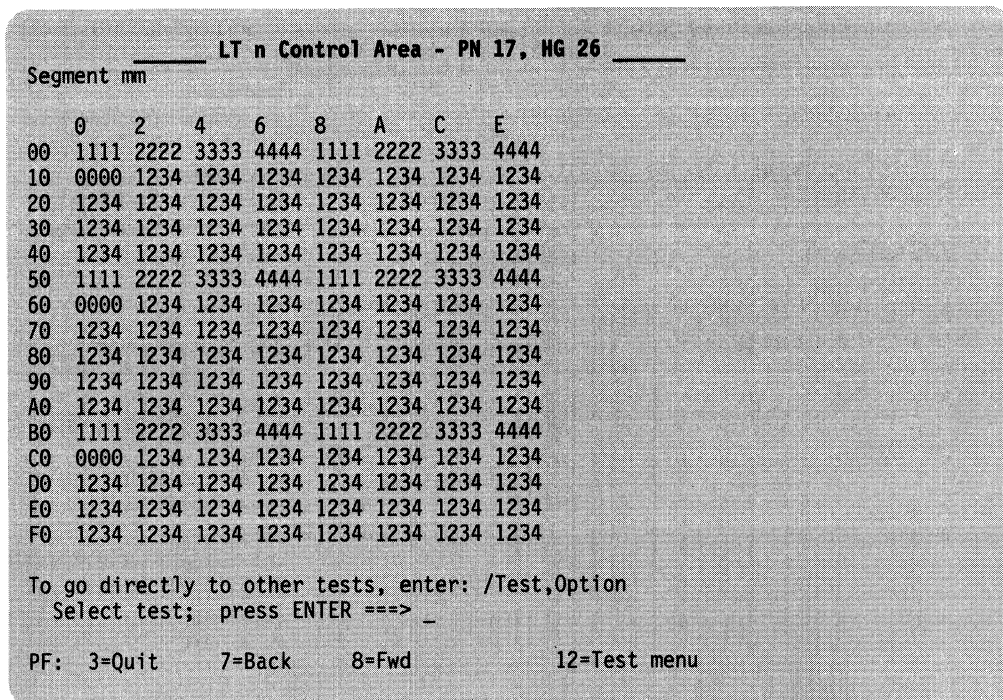

Figure 3-21. Example of a LT Control Area Panel
An example of the Port Control Area panel is shown in Figure 3-20 on page 3-26. Multiple panels, labeled LT Control Area, are then displayed for each session. Multiple Logical Terminals (MLTs) are distinguished by an LT number at the top of those panels. See Figure 3-21 on page 3-27 for an example of an LT Control Area panel.
**Test 6, Option 2,n,m:** The panel shown in Figure 3-21 panel displays information for the logical terminal specified by the parameter values.